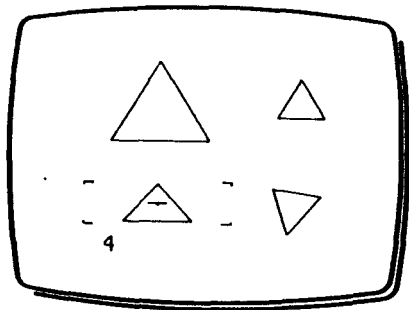

Fig 4
- 2 **Release R when the cursor frame is proportioned as (4) in Fig 4, then rotate Z to alter the size, and move XY to position the cursor frame at (4).**